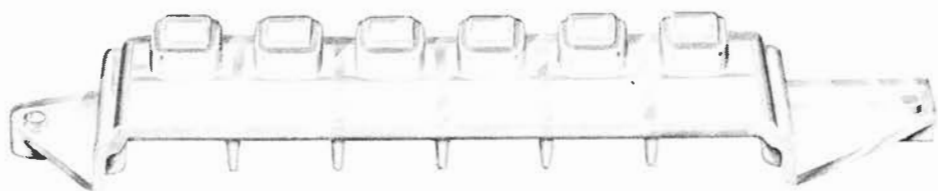

Fig. 2 - 105-Type Apparatus Blank
**3.03** The 105-type apparatus blank (see Fig. 2) is a molded white plastic blank that has the appearance of a 598- or 599-type key. It is used to fill unequipped key spaces.